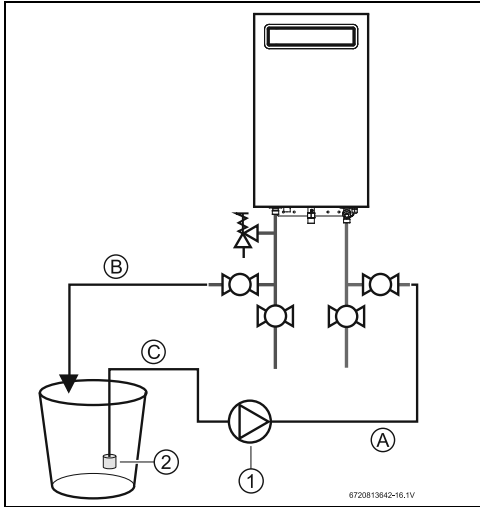

Fig. 43
- ▶ Connect a line (A) from the outlet of the circulating pump (installer supplied) to the inlet water fitting on the water heater (see fig. 43).